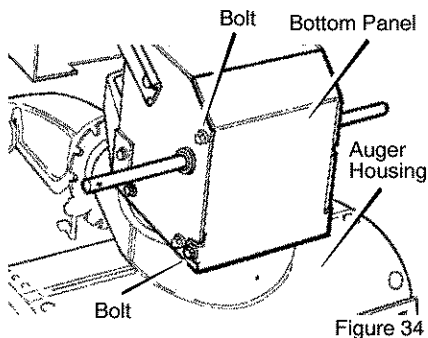

Figure 34
2. Stand the snow thrower up on the front end of the **auger housing** (see Figure 34).
4. Loosen the **bolts** on each side of the **bottom panel** (see Figure 34).
6. Install the **bottom panel** (see Figure 34).
2. Stand the snow thrower up on the front end of the **auger housing**. (see Figure 34).